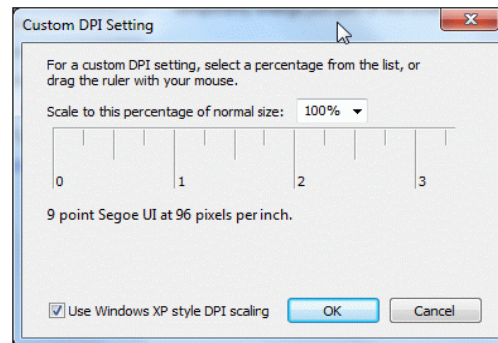

FIGURE 48.
- The screen shown in Figure 48 may be caused by the PC monitor. The solution is to resize the set custom text size (DPI) by going to Control Panel -> Appearance and Personalization -> Display -> Set custom text size (DPI) and choose “Scale to this percentage of normal size: 100%” (96pixels/inch).